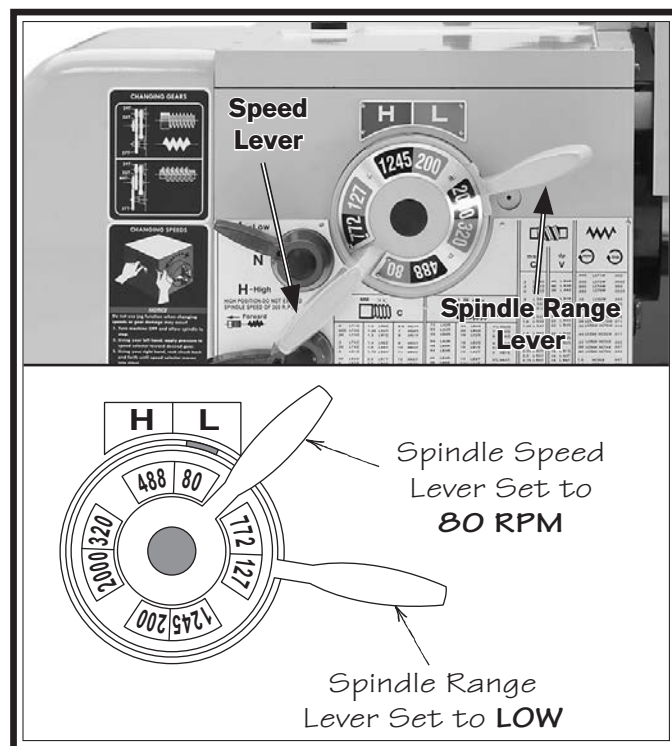

Figure 25. Spindle speed set to 80 RPM.
- a. Move the spindle range lever so the arrow on the hub points toward the **L** (low) label (see **Figure 25**).